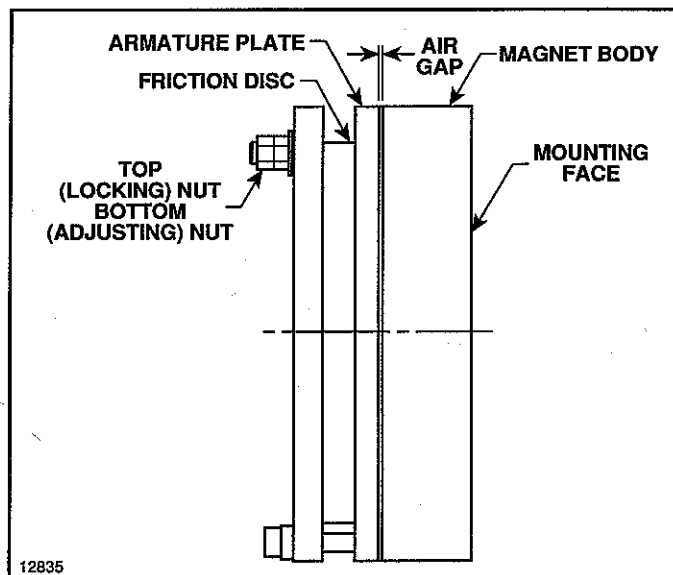
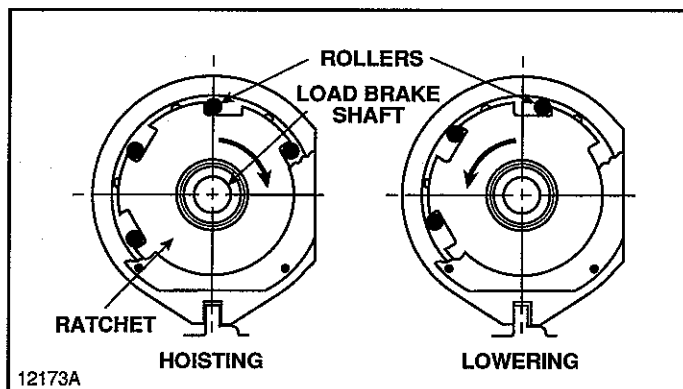

Figure 8-4. Motor Holding Brake.
Figure 8-5. Illustration of Roller-Ratchet Brake.
b. **Construction.** Refer to Figure 8-4. The brake friction disc is geared to the motor pinion. With the power on and the brake off the armature plate is attracted to the magnet thereby releasing the friction disc. This allows the motor pinion shaft to rotate. With the power off or the brake on, the armature plate is spring set against the friction disc, stopping and holding the motor pinion shaft.
- (1) Loosen top (locking) nuts (Figure 8-4) at 3 positions around the outside of the brake.
- (2) Turn bottom (adjusting) nuts to reduce the air gap between the armature plate and the magnet body. Adjust air gap to .015"  $\pm$  .001".
- (3) Torque top nut against bottom nut with 45 to 50 foot pounds.
- (4) Recheck air gap at 3 positions around the armature plate.
- (5) If, after above adjustment, the load hook continues to "drift" downward more than normal for this hoist, make a complete inspection of brake including friction surfaces.
- (1) Remove top (locking) nuts (Figure 8-4) from 3 positions around outside of brake.
- (2) Remove bottom (adjusting) nuts (Figure 8-4) from 3 positions around outside of brake.
- (3) Lift outer cover plate and friction disc from brake.
- (4) Check friction surfaces, friction disc and gear surfaces.
- (5) Replace all worn or damaged parts. If brake parts, other than disc, are required, order complete brake.
- (6) Reassemble in reverse order of disassembly.
- (7) Adjust brake per paragraph 8-5. c.
c. Operation. Figure 8-5 shows the action of the roller-ratchet load brake in both hoisting and lowering. The slots cut into the ratchet are sloped in a manner which forms a clearance between the rollers and the retaining plate (outer race) when the ratchet is rotated in the hoisting direction. However, when rotating the ratchet in the lowering direction, the slot slopes so as to force the roller into a wedged position. This action stops the ratchet from further rotation.